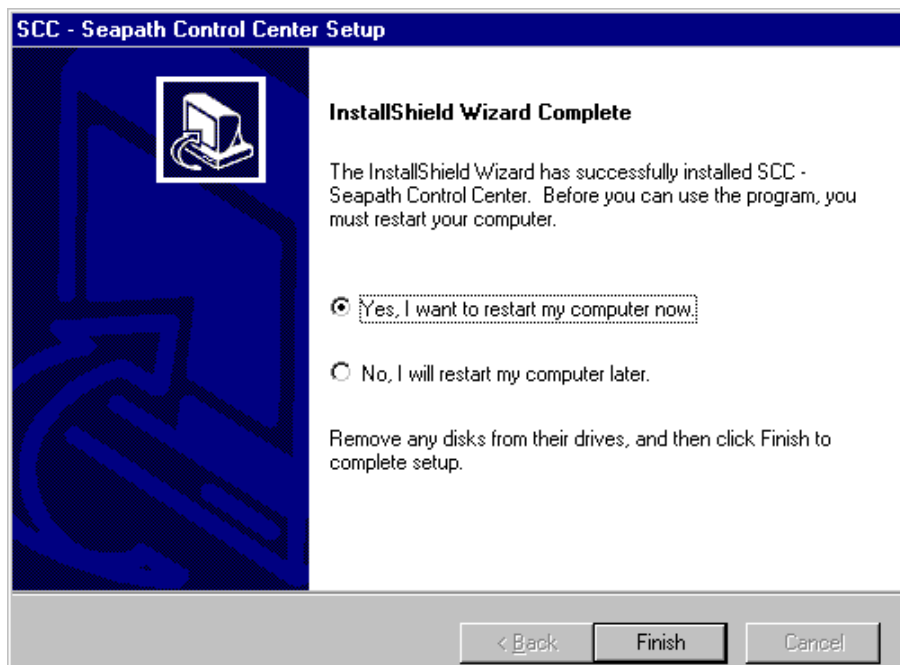

Figure 17 Installation Complete
3. When the installation of files is finished, the window shown in Figure 17 appears. Choose to restart the computer now or later. Click **Finish** and the setup is complete. Remove the diskette.